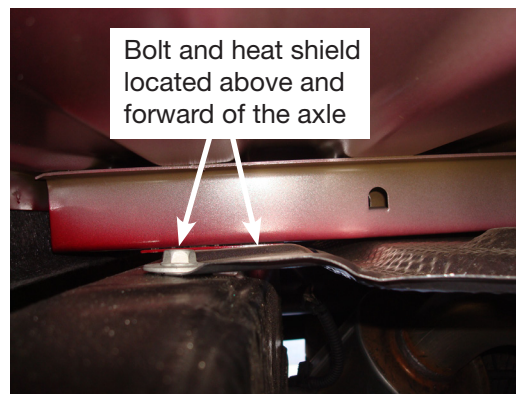
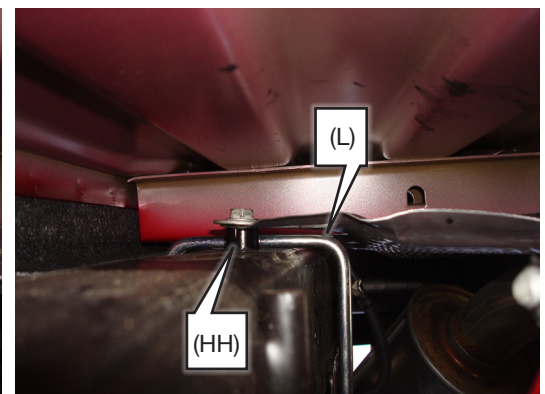
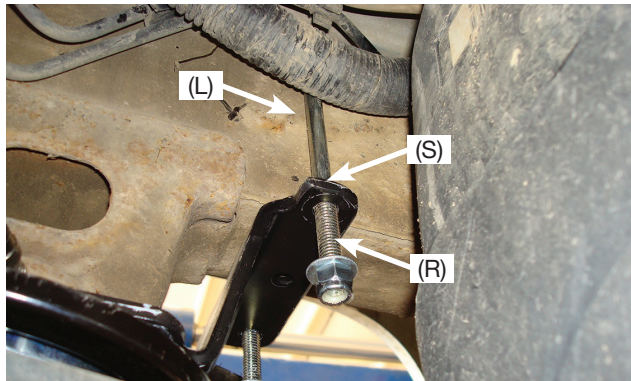

Fig. 19
Fig. 20
Fig. 21
5. Using a ratcheting wrench, remove the bolt that holds the heat shield on the frame above and forward of the axle. Set the bolt aside (fig. 19).
6. Set a U-bolt (L) into position around the frame (fig 20). Set spacer (HH) between the frame and heat shield and reattach the heat shield with the stock bolt previously removed.
7. For models without a heat shield, as shown in Figure 19, set a U-bolt (L) into position around the frame (Fig. 20) and insert the U-bolt (L) through the holes in the upper bracket forward of the axle (Fig. 21).